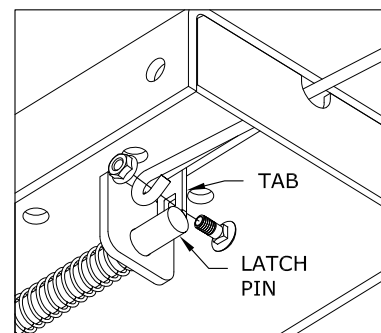

FIGURE E2: Handle Installation
2. Secure the handle to the pin with the 5/16" X 3/4" carriage bolt and 5/16" locking flange, see figure E2. Note: The included 5/16" cap screw can replace the carriage bolt if wrench access on the "cab side" of the handle is limited. Tighten the nut until it is secure. Do not over-tighten and deform the handle eyelet.